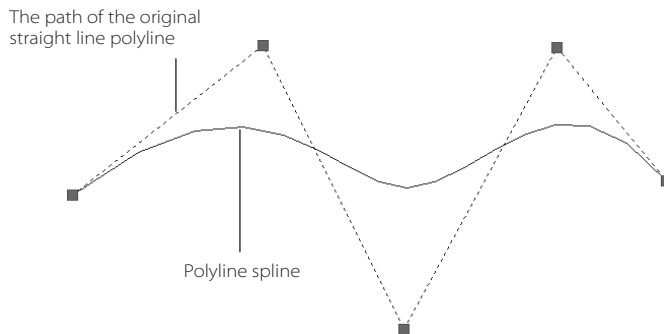

Figure 3.10
3. At the Enter an option [Close/Join/Width/Edit vertex/Fit/Spline/Decurve/Ltype gen/Undo]: prompt, enter **S** to select the Spline option. The straight lines of the polyline change to form a curve, as shown in Figure 3.10.